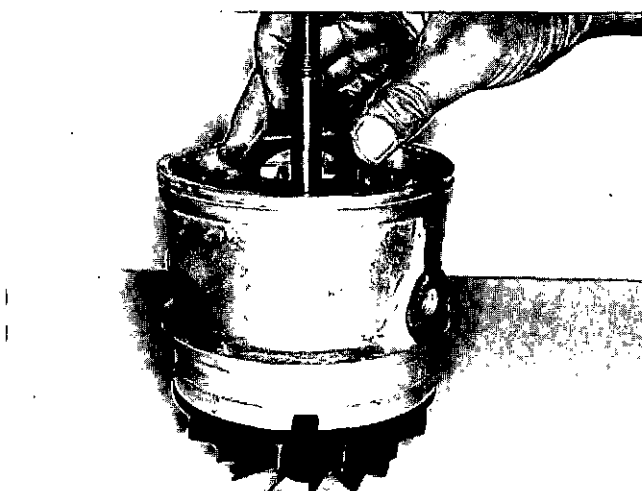

Fig. 3-14, (VTST39). Installing the turbocharger bearing insert
7. Position the turbocharger bearing insert over the flange of the turbocharger bearing, Fig. 3-14.